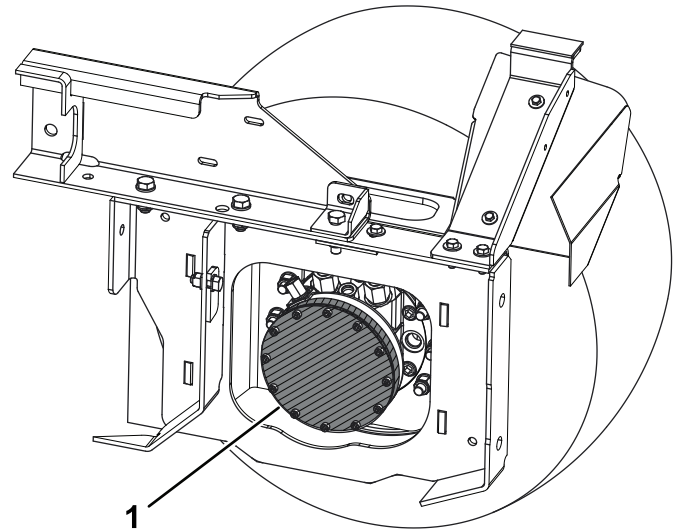

Figure 1
3. Identify the right front wheel motor. Clean all dirt and debris from the shaded area in Figure 1 to prevent contamination entering the motor when the cover is released.